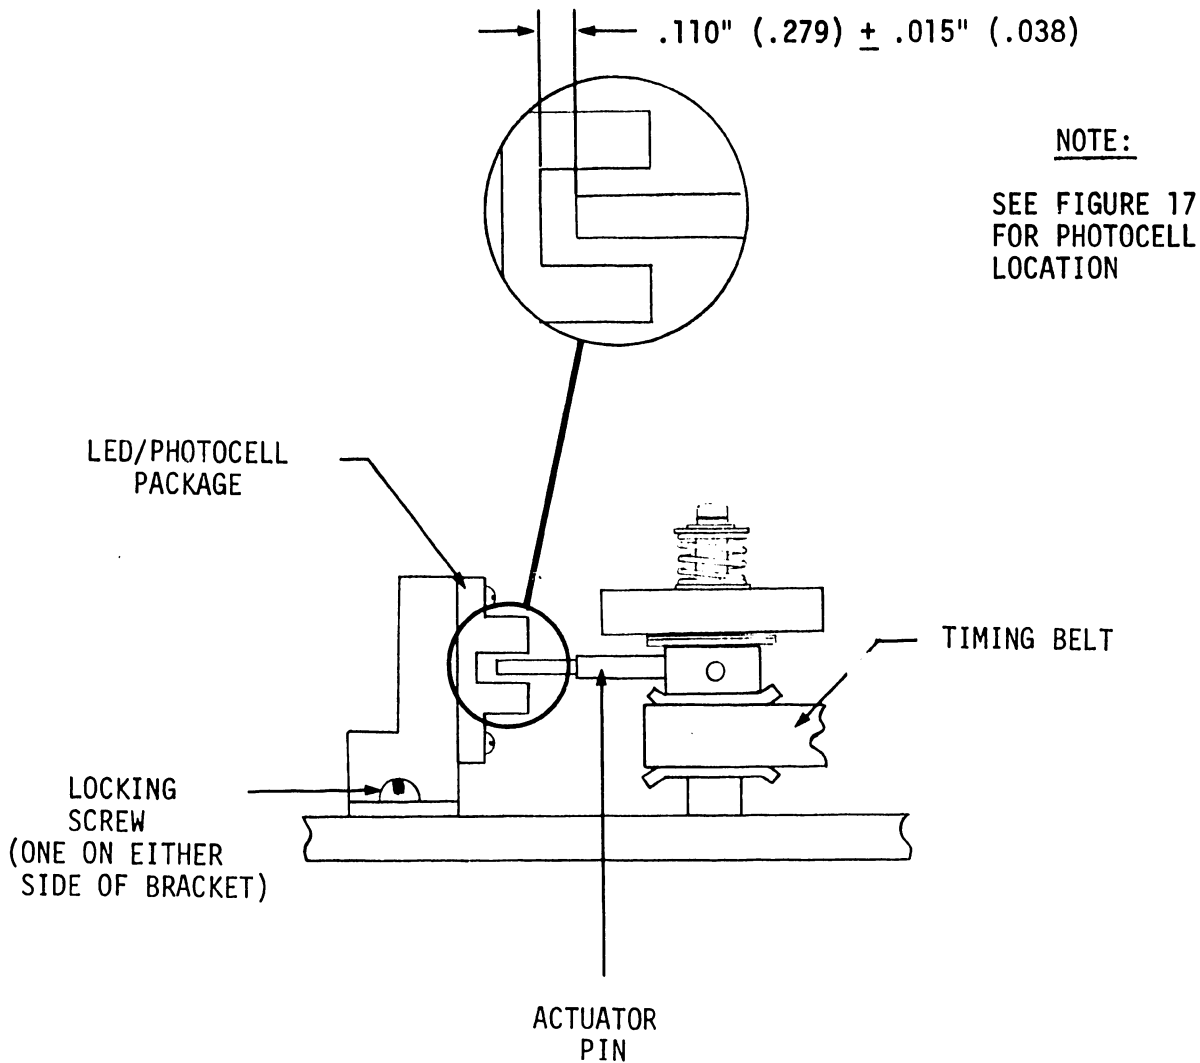

FIGURE 16
- 1) With the photo actuator pin engaged within the LED/photo cell package there should be a clearance of  $.110'' (.279) \pm .015'' (.038)$  from the tip of the actuator pin to the inside edge of the photocell package (See Figure 16).